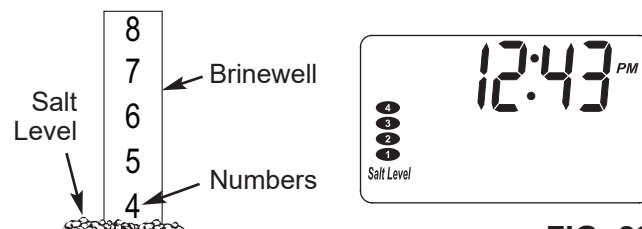

FIG. 22
3. Press the SET SALT LEVEL button until black ovals correspond to the salt level number (See Figure 22). At level 2 or below, the “Low Salt Level” light will flash.